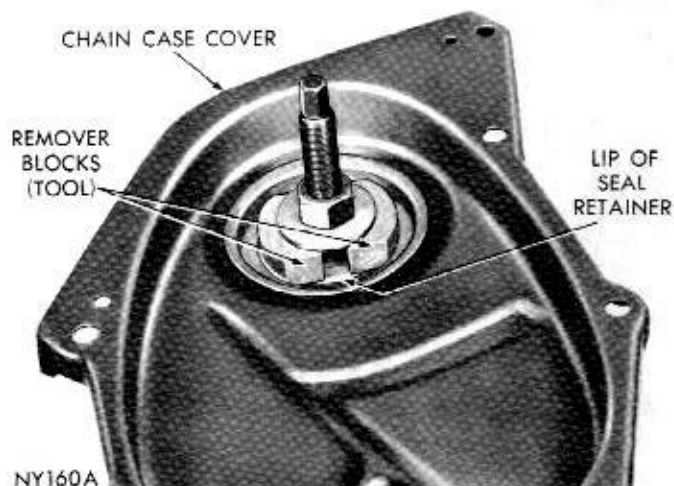
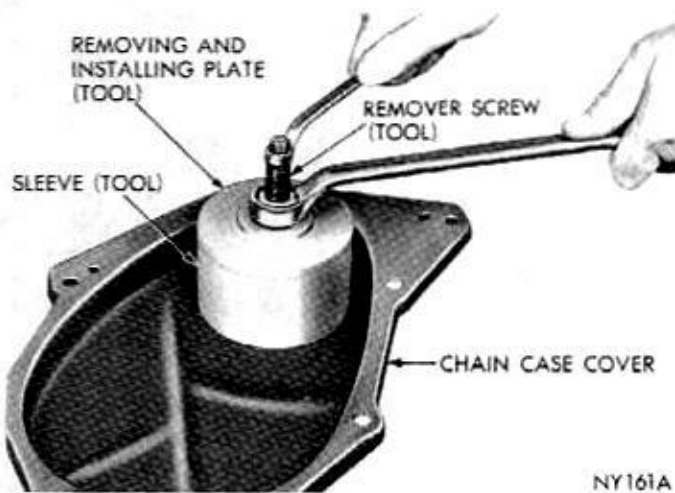

Fig. 21—Remover Blocks Expanded to Puller Position
Fig. 22—Removing Oil Seal
(1) Position remover screw of Tool C-3506 through case cover, the inside of case cover up. Position remover blocks directly opposite each other, and force angular lip between the neoprene and flange of seal retainer.
(2) Place washer and nut on the remover screw. Tighten nut forcing the blocks into the gap to a point of distorting the seal retainer lip (Fig. 21). **Remover is only positioned at this point.**
(3) Place sleeve over the retainer and install the removing and installing plate into the sleeve.
(4) Place flat washer and nut on remover screw. Hold center screw and tighten lock nut to remove seal (Fig. 22).
(5) Insert remover screw through the removing and installing plate so the thin shoulder will be facing up.
(6) Insert the remover screw with the plate through the seal opening (inside of chain case cover facing up).